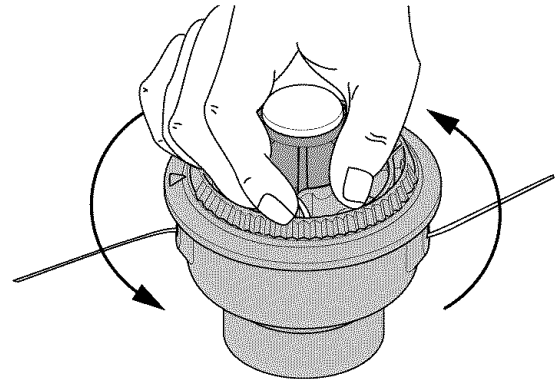

Fig. 18
6. Wind the inner reel counterclockwise until approximately four (4) inches of line remains outside of the eyelets in the reel housing (Fig. 18).